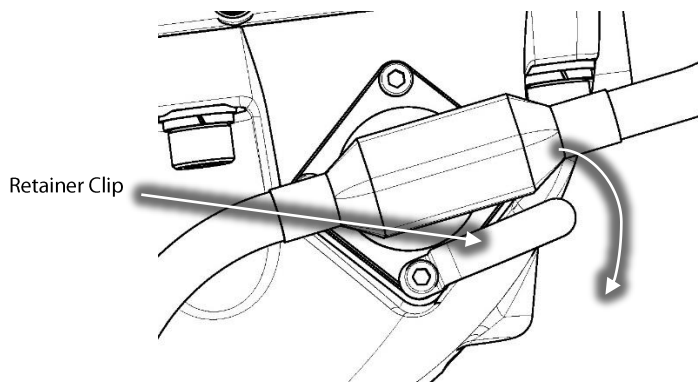

Figure 18 – Retainer Clip Rotation
28. Loosen the screw containing the Retainer Clip and rotate the clip to allow for the connector to be removed. Refer to Figure 18 (Retainer Clip Rotation).